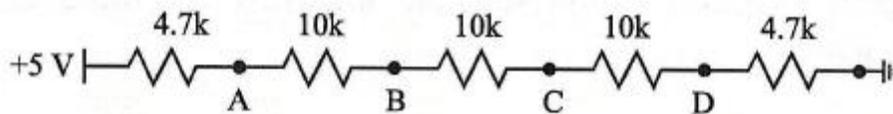

Figure 1. A string resistor ladder network
1. A string resistor ladder, as shown in Figure 1, is a voltage-divider configuration that can be used for analog-to-digital conversion, and